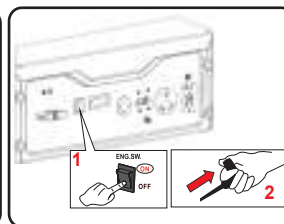

Fig 11 Recoil Start
- Push the ON/OFF switch to the “ON” position. Pull the recoil handle (starter cord) slowly until resistance is felt, return, then pull rapidly. (See fig 11)